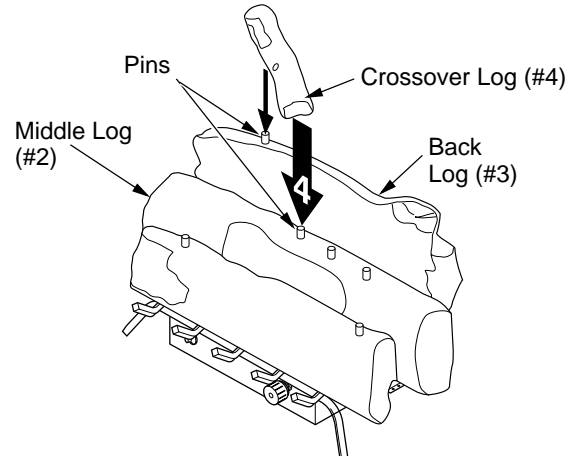

Figure 27 - Installing Crossover Log #4 (CCL3930PTB/NTB Shown)
- Locate holes on the bottom of crossover log (#4). Slide front hole onto the left pin (CCL3924PTA/NTA or CCL3930PTB/NTB) or middle pin (CCL3018PA/NA or CCL3018PTA/NTA) on the middle log (#2) and the pin on the back log (#3). See Figure 27 for placement.